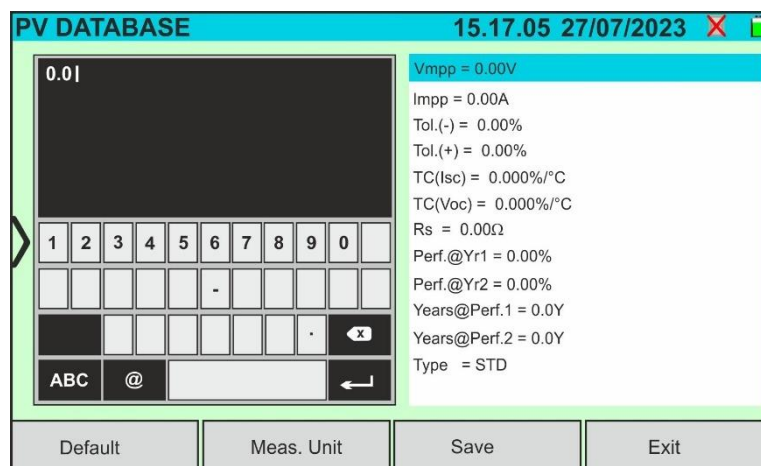

Fig. 26: Creating a new PV module - Step 2
3. Use the virtual numeric keypad to set the parameter values for the module according to the module data sheet, as shown in Fig. 26.